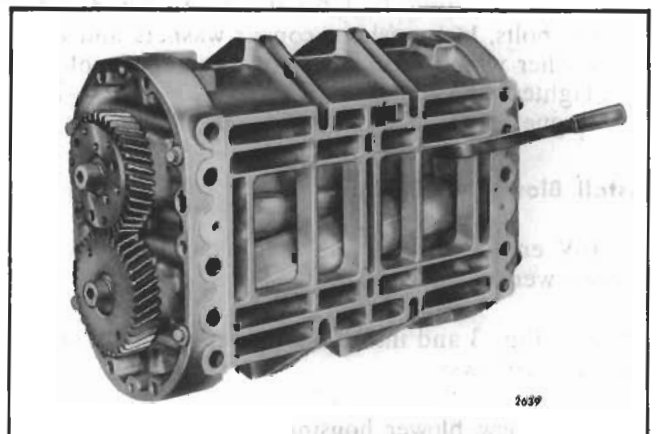

Fig. 22 - Measuring End Clearance Between Blower Rotors and End Plate
feeler gage as shown in Fig. 22. Refer to Fig. 20 for minimum blower clearances.
8. Determine the minimum clearances at points "A" and "B" shown in Fig. 20. Insert the feeler gages, as shown in Fig. 22, between the end plates and the ends of the rotors. This operation must be performed at the ends of each lobe, making 12 measurements in all. Refer to Fig. 20 for the minimum clearances.